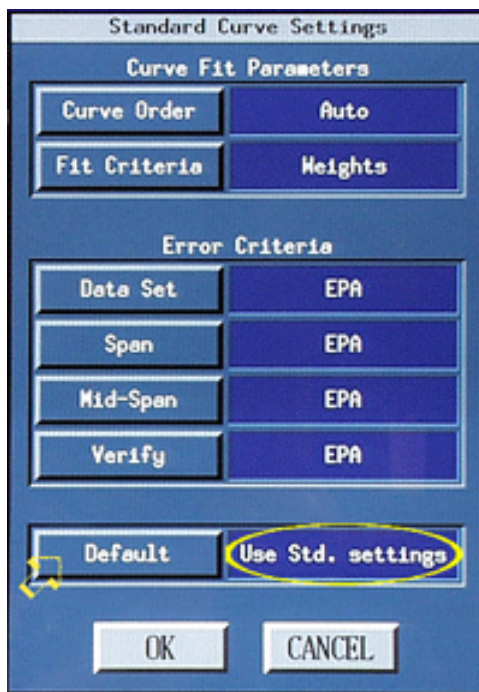

Figure 21
- 128 Verify that the field for “Default” displays “on “Use Std. settings.” If not, click on “Default.” See the arrow in Figure 21. Select “on “Use Std. settings.” See the circle in Figure 21.